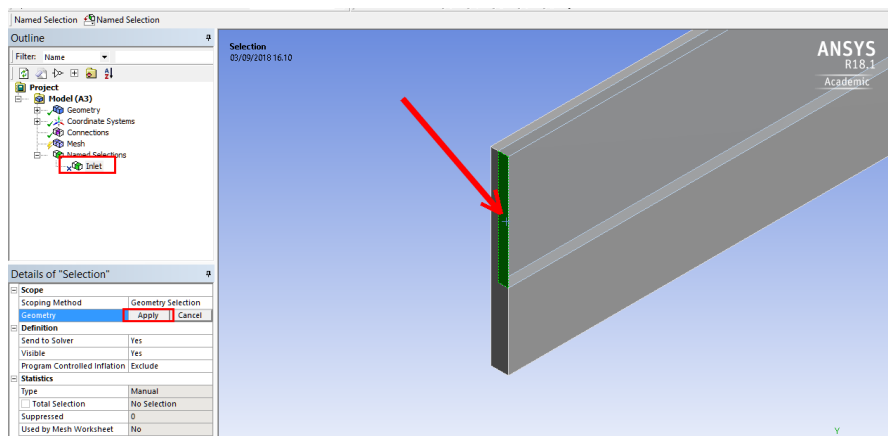

Figure 26: Set Inlet face in ANSYS Mesh.
- Press *Apply*, as depicted in figure 26.